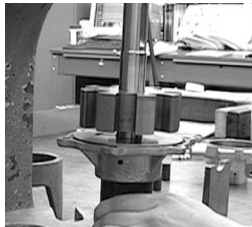
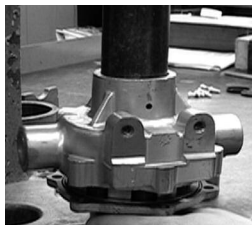

Figure 12
Figure 13
1. Install the shaft rotor assembly by carefully pushing the short end of the shaft rotor assembly through the shaft seal into the endplate. Place in the arbor press with the drive end of the shaft pointed down and press the assembly together (Figure 12). Leave just enough clearance between the rotor and endplate so that rotor can be turned by hand. If it turns too freely, sand a little more off the body end that faces the endplate. You should notice a slight drag, but be able to turn shaft with an adapter on it, by hand. The "slight drag" will wear off after the pump has been used a short time. Installing new rollers, seals, bearings and shafts will not prove entirely satisfactory for volume and pressure unless end clearance is taken up.
2. Remove the assembled portion from the arbor press and invert it on the press table. Then place rollers in the roller slots as close to center of rotor as possible. Place the pump body over rotor and shaft, and carefully ease the end of the shaft past the lips of the seal in pump body (Figure 12). Slowly press the pump body down to fit the endplate (Figure 13).
3. Turn pump over; line up bolt holes and replace assembly bolts. Alternately and evenly tighten the bolts as shown (Figure 13).